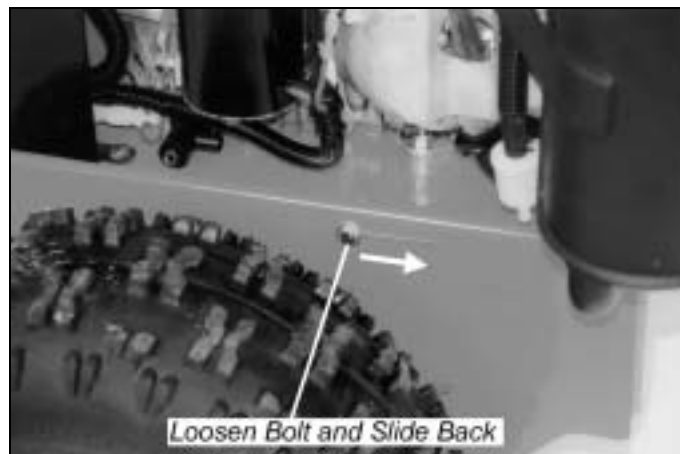

Figure 14
9. Loosen the belt retainer bolts on the outside of the frame (one on each side) and slide the retainer back (*Figure 14*).